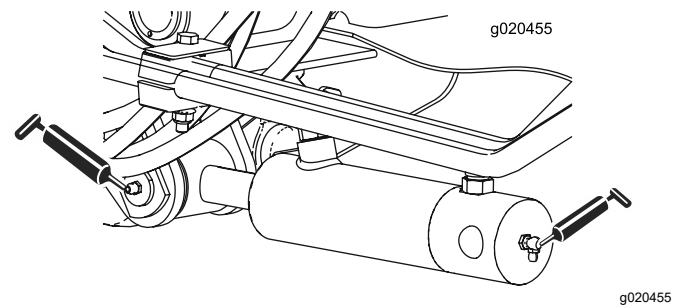

Figure 46
- 2 (each side) lift-arm-cylinder bushings (Figure 46)